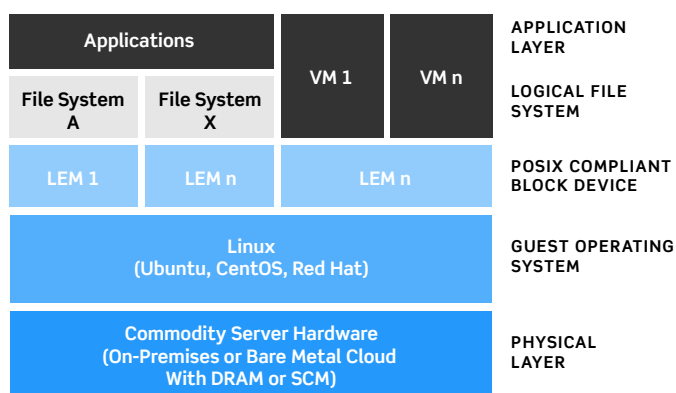

Figure 1: The FORSA LEM architecture.
LEM's have enterprise-level functionality and attributes such as bad block replacement, snapshot, clone, and high availability (HA) functionality. These enterprise-level functions are available to all LEM instances, regardless of whether the LEM is used for the local host or provisioned to FORSA KVM-based Windows or Linux VM instances. See **Figure 1**.